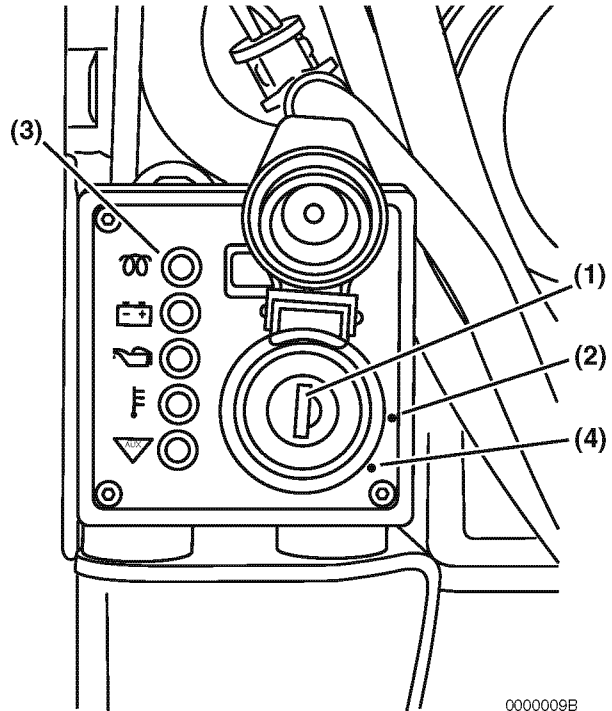
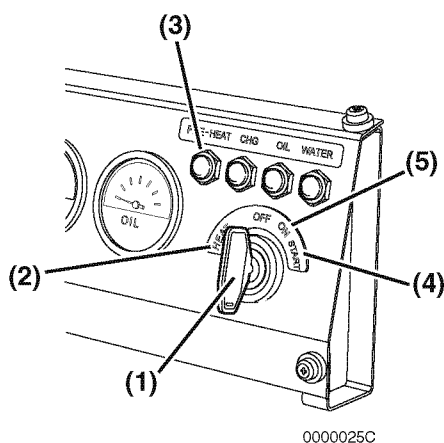

Figure 2
Figure 3
7. Insert the key into the key switch (Figure 2, (1)) or (Figure 3, (1)).
8. Turn the key to the ON position (**Figure 2, (2)**) or the HEAT position (**Figure 3, (2)**). The pre-heat indicator (**Figure 2, (3)**) flashes for several seconds and then goes out. After the pre-heat indicator goes out you can start the engine.
9. Turn the key clockwise to the START position (**Figure 2, (4)**) or (**Figure 3, (4)**). Release the key as soon as the engine starts. It will return to the ON position (**Figure 2, (2)**) or (**Figure 3, (5)**).